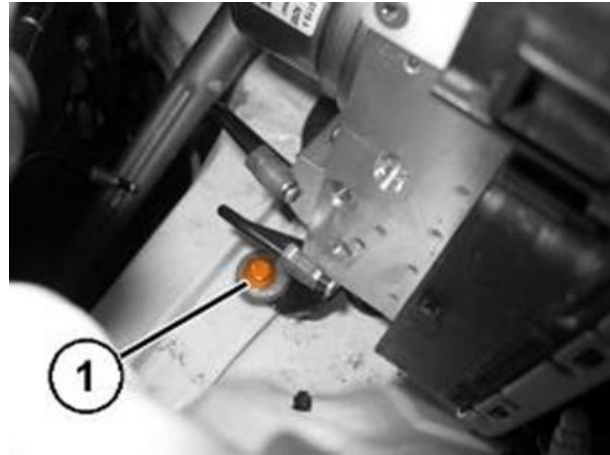

Figure 19 – ABS Mounting Bracket
33. Remove the attaching screw (1) of the ABS control module mounting bracket to the body (Figure 19).